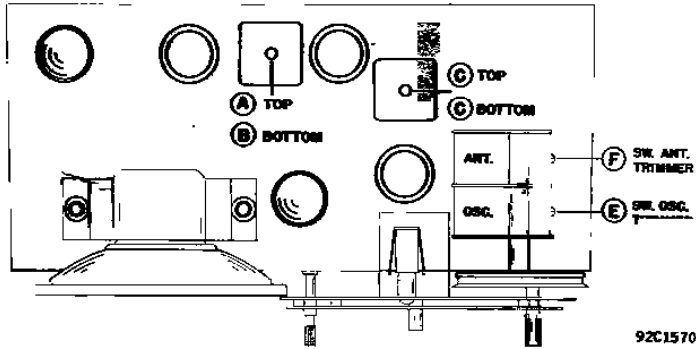

Fig. 4. Top View of Chassis Showing Location of Alignment Adjustments
- Refer to Figs. 4 and 5 for location of alignment adjustments.